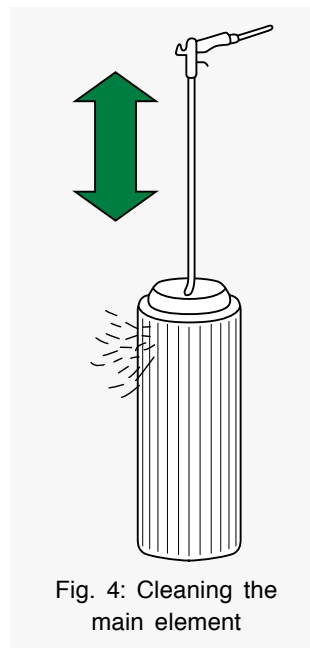

Fig. 4: Cleaning the main element
- In order to clean, position a pipe with an end bent by approx. 90° on the end of compressed-air pistol. The pipe must be long enough to reach to the bottom of the filter element. Carefully blow out the filter element with dry compressed air (max. 5 bar) from the inside to the outside, or from the clean air side to the dirty air side until there is no more development of dust. The end of the pipe must not touch the element (see Fig. 4).